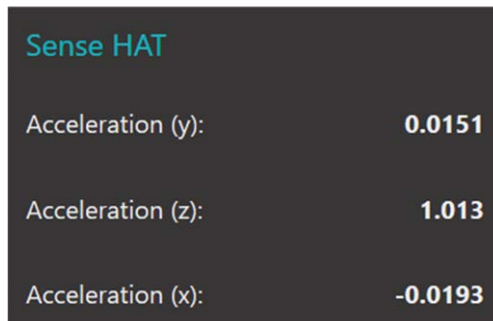

Figure 12.9 Displaying the acceleration in 3 dimensions
- Join the nodes and click **Deploy**. You should see the acceleration displayed in your Dashboard as shown in Figure 12.9